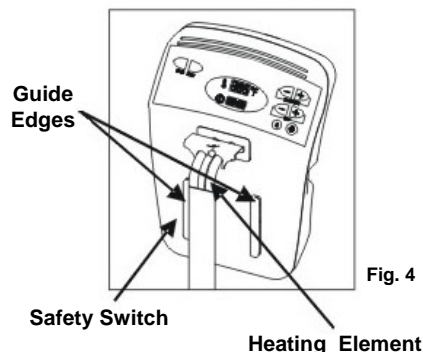

Fig. 4
**Important Notice:** The automatic safety switch ensures that the unit will not operate unless the control panel has been inserted into the "guide rails" on the metal body correctly. (Fig. 4)